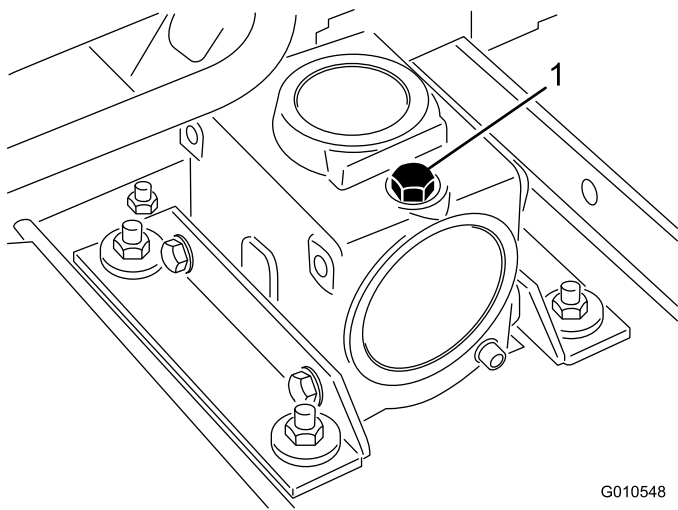

Figure 24
2. Position the machine and cutting unit on a level surface and lower the cutting unit. Remove the dipstick/fill plug from the top of the gearbox (Figure 24) and ensure that the lubricant is between the marks on the dipstick. If the lubricant level is low, add SAE 80-90 weight gear lube until the level is between the marks. The gearbox capacity is 283 ml (12 fl oz).